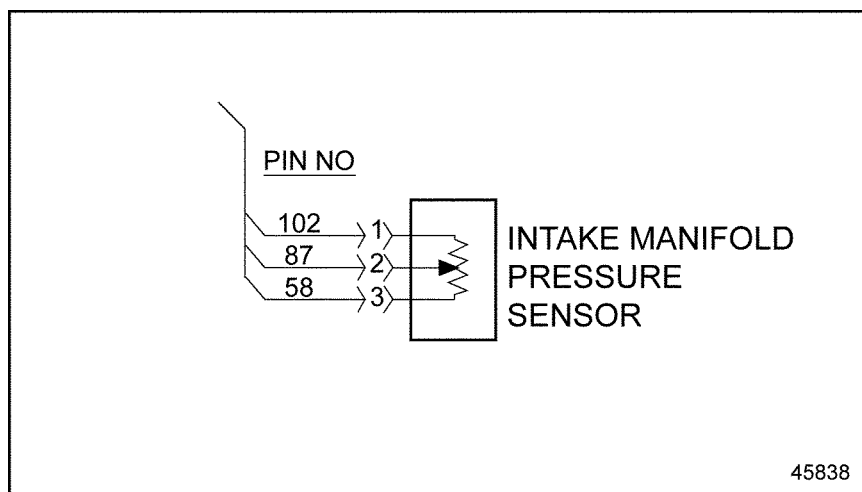

Figure 111-2 Intake Manifold Pressure Sensor
3. Measure the resistance between pins 1 and 2 of the sensor. See Figure 111-2.